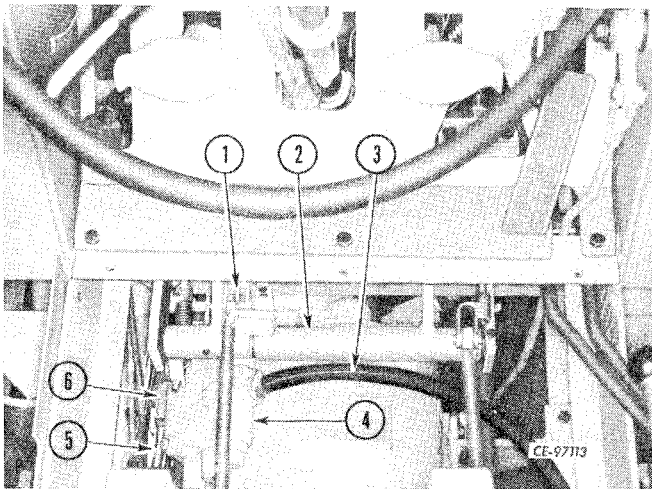

Figure 4-102
Connect transmission control linkage (1, Fig. 4-102) to valve spools. Connect the main supply line (3) to valve (4). Connect hose (5) to lube manifold (6).
Install pedal bellcrank (2, Fig. 4-102). Refer to Section IX, "LINKAGE."